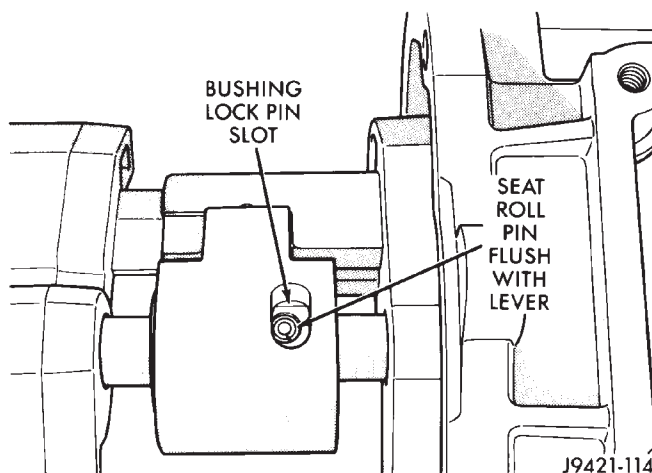

Fig. 111 Correct Seating Of Shift Shaft Lever Roll Pin
(11) Seat shaft lever roll pin with pin punch (Fig. 111).
(12) Before proceeding, verify that lock pin slot in lever bushing is positioned as shown (Fig. 111).